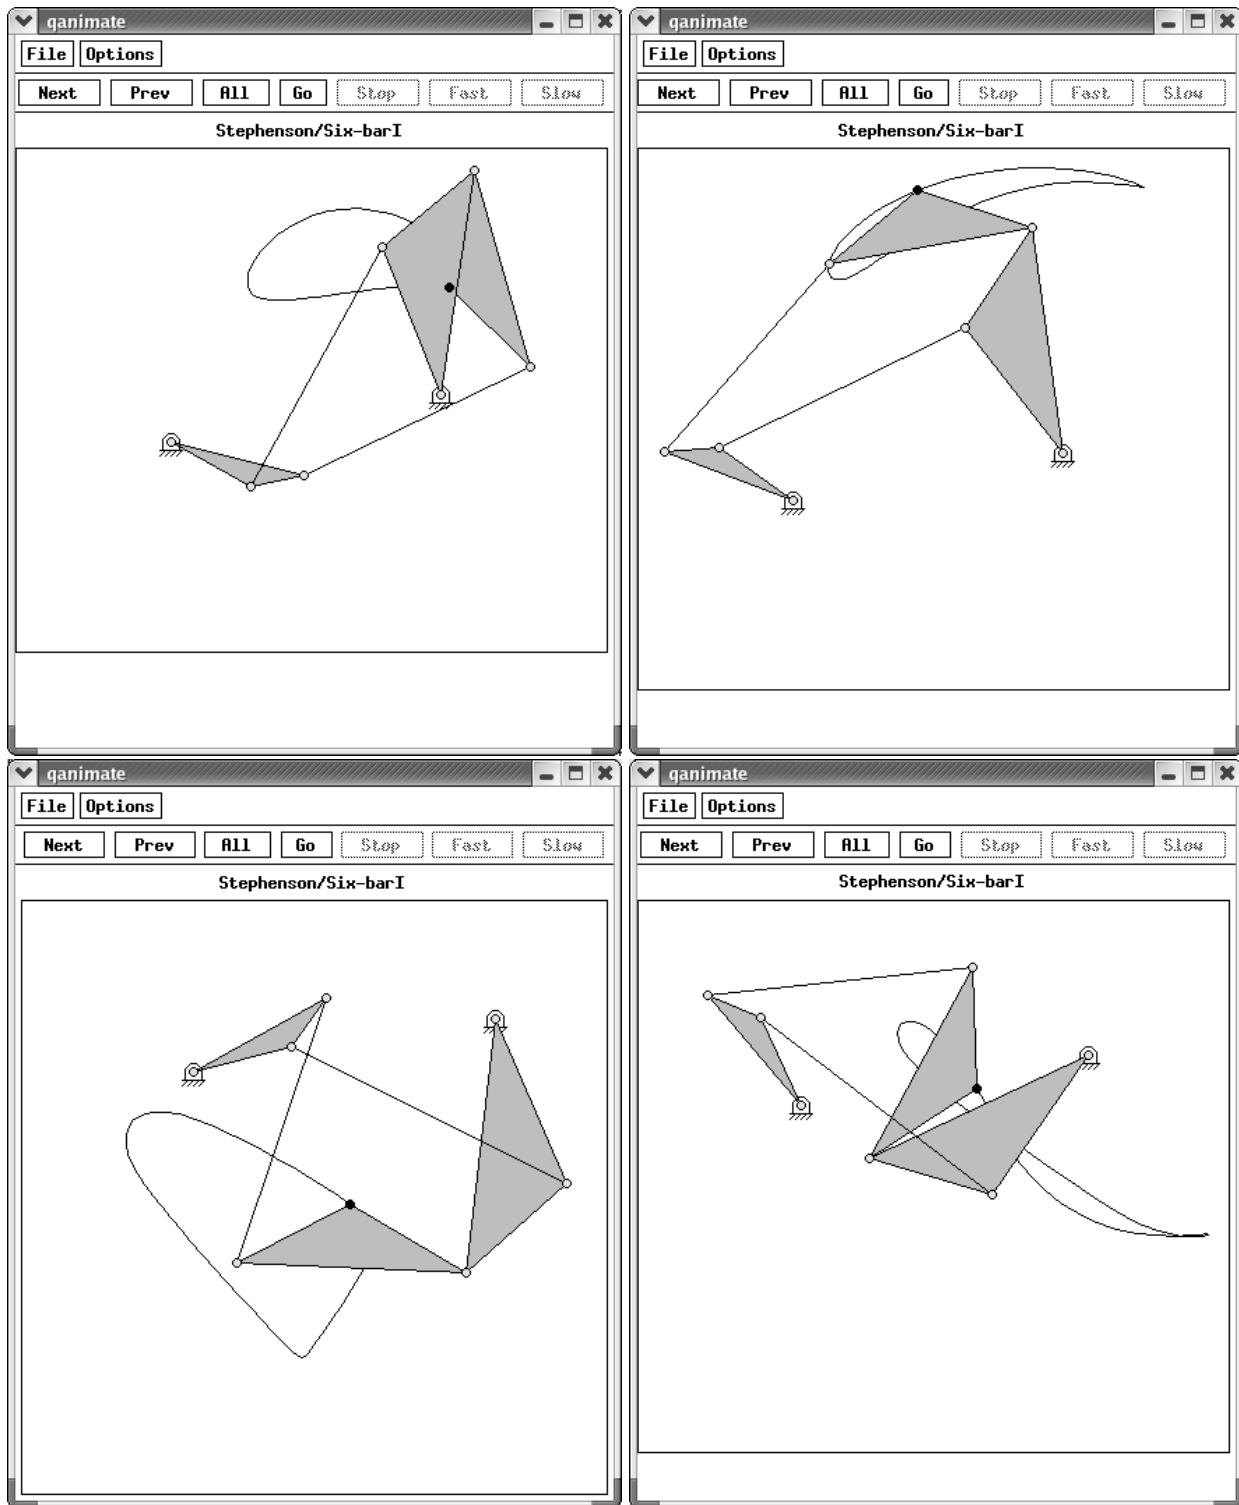

Figure 5.22: Output of Program 35.
can be used to simulate the motion of a Stephenson (I) sixbar linkage. For the Stephenson (I) sixbar mechanism defined in earlier problem statements, with the coupler link being link 6, Program 35 can be used to simulate its motion. Snapshots of animation for the four possible geometric inversions are shown in Figure 5.22. Note that if the fourbar portion of the sixbar linkage was a Grashof Rocker-Rocker, the possible number of geometric inversions would be 8, not 4.